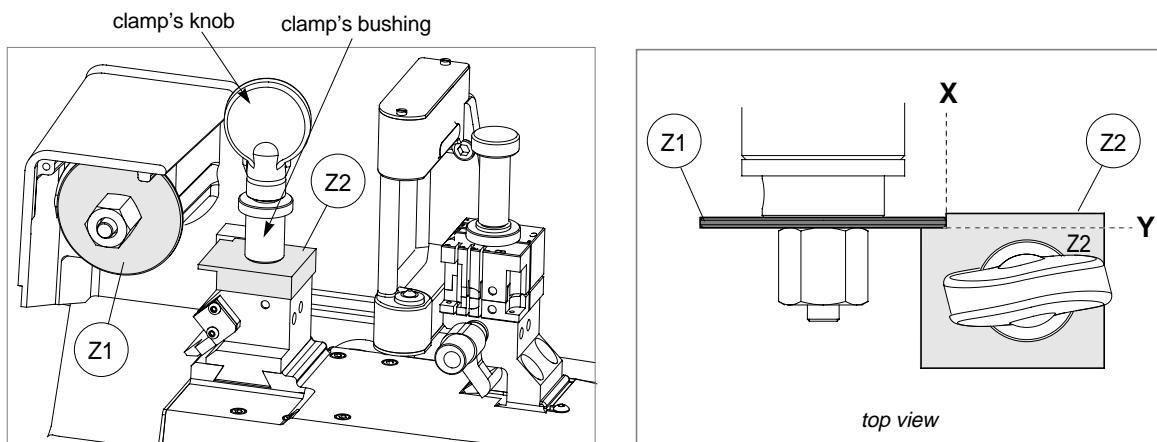

Fig. 34
- 5) insert the (Z2) template, the clamp's bushing and secure them with the clamp's knob (fig. 34).
- 6) remove the cutter (ch.4.6, page 16) and insert the (Z1) template into place (fig. 34).
- 8) manually move the X and Y axis up until the (Z1) and (Z2) templates make contact (see fig. 34 - top view).
ATTENTION: check that both the (Z2) and (Z1) templates make perfect contact (fig. 34). If this does not occur the display will show an error message.